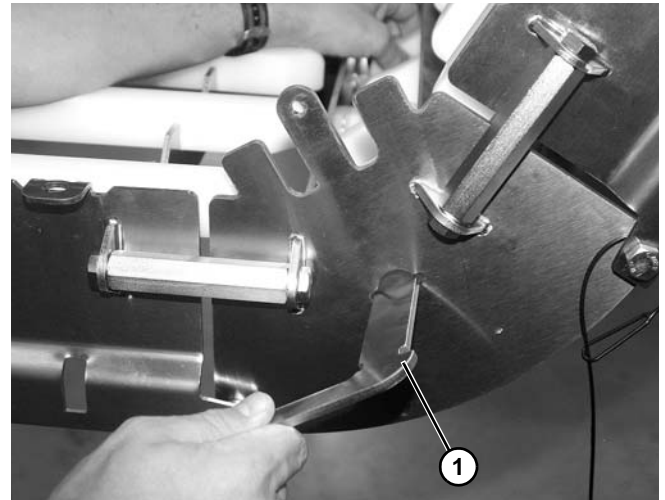
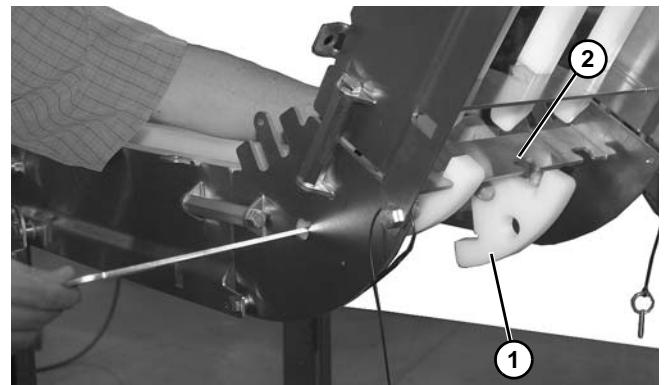

Figure 108
Figure 109
4. Pull out on plate (Figure 108, item 1) on the side of the lower knuckle. While pulling out plate, remove the lower knuckle wear bars (Figure 109, item 1) from notches (Figure 109, item 2) on bracket of knuckle.